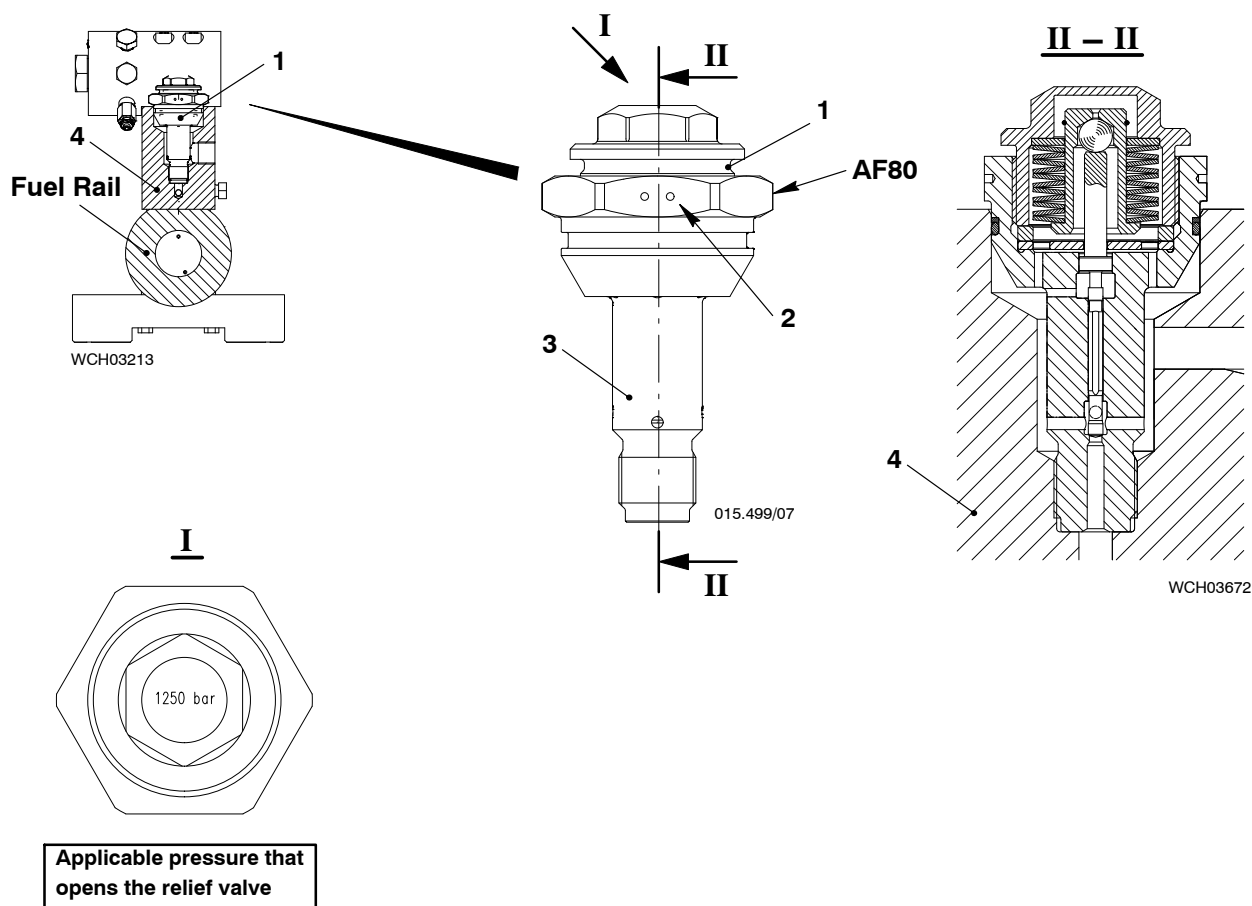

Fig. 1
Maintenance of the relief valve (1, Fig. 1) is not usually necessary, but you must do a function check at regular intervals. Refer to the Maintenance Schedule 0380-1 Relief Valve for the frequency to do the function test. Unserviceable relief valves must be sent to the manufacturer, or to a WinGD authorized repair workshop for inspection and repair.
- 3) Use a spanner (AF80, Fig. 1) to remove the relief valve (1) from the connecting piece (4).